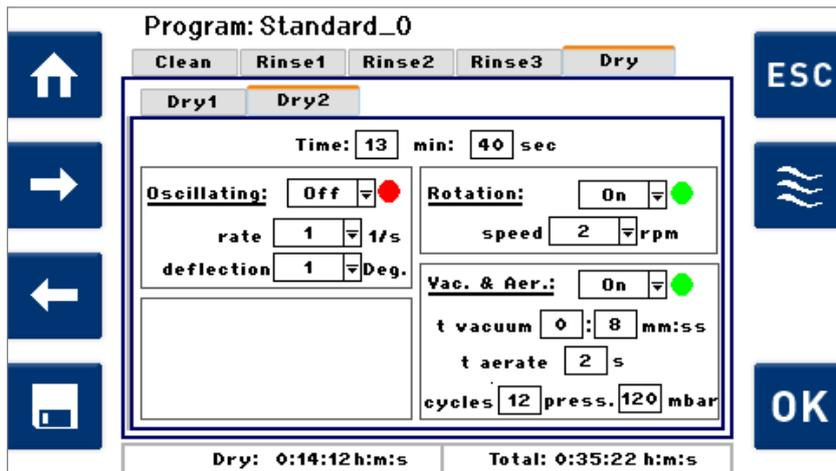

Fig.16.6 Screenshot of the options for Dry2.
Under consideration of the elementary physical boundary conditions of the vacuum drying described above, selection of the vacuum drying parameters, adjusted for the respective drying task, of the sequence Dry2 (*Fig. 16.6*) using Expert Mode is recommended.
The programmable vacuum drying parameters in the sequence Dry2 (*Fig. 16.6* bottom right) determine the
- further duration of the evacuation, measured from reaching the specified pressure (8 seconds, 120 mbar in *Fig. 16.6*), with which even lower pressures on the pressure-time curve $p(t)$ in the cleaning chamber are reached when the vacuum pump is running,
- duration of the re-aeration by opening the vent valve of the cleaning chamber for the ambient normal pressure (2 seconds in *Fig. 16.6*) while the vacuum pump continues running (for the purpose of maintaining the flow of the supported vapor mist extraction for the cleaning chamber),
- number of repetitions of this cycle of evacuation and re-aeration (12 times in *Fig. 16.6*).